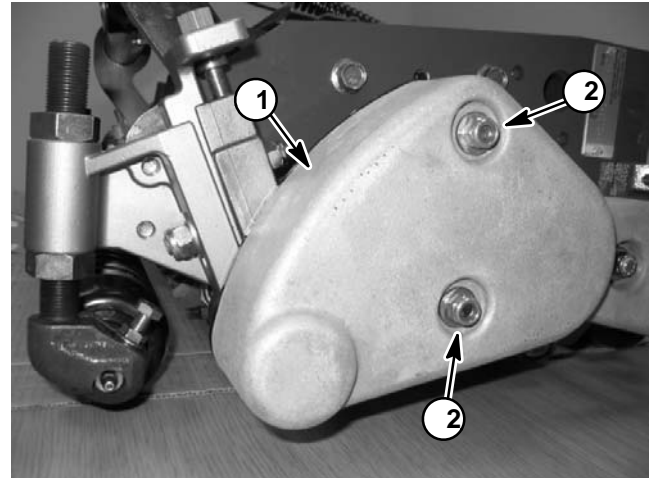

Figure 2
2. Remove two (2) flange nuts that secure groomer belt cover, then remove cover (Fig. 2).